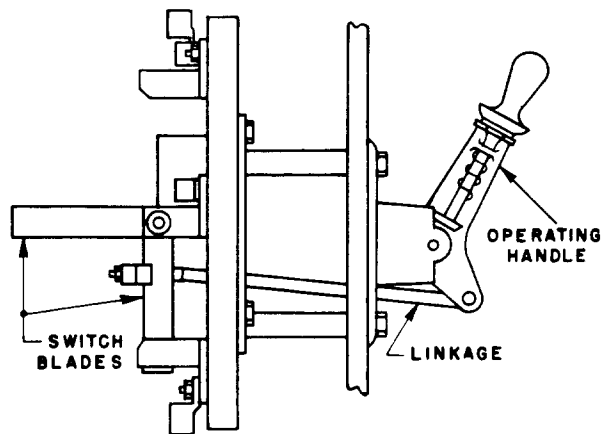

Fig. 9—KS-15515 Switch Showing Operating Handle and Linkage to Switch Blades
- (1) On switches having linkage between the operating handle and the switch blade, (Fig. 9) wipe off the joints with a clean cloth to remove accumulated dirt. Apply oil sparingly to the joints and remove excess oil with a clean cloth.